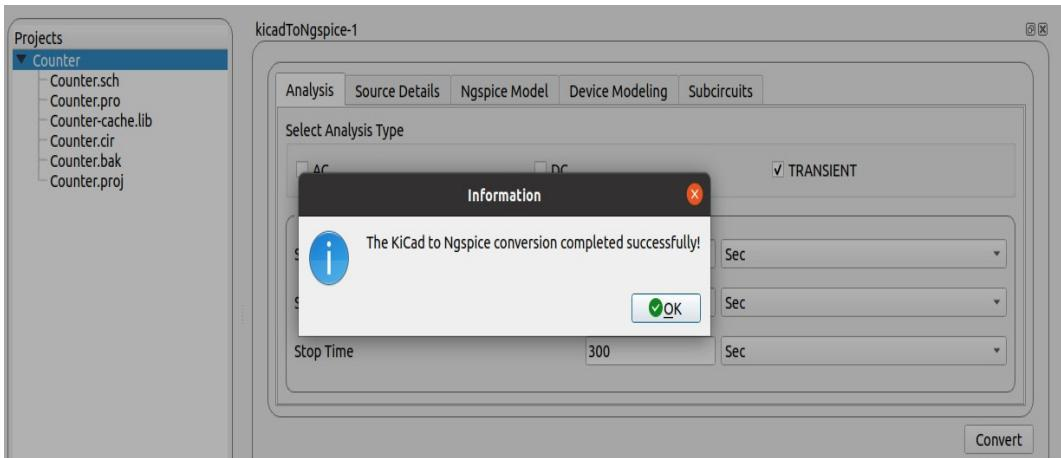

Figure 11.35: KiCad to Ngspice conversion
- In this counter example, no device modeling and sub-circuit build up is required. Now click on the **Convert** button as shown in Fig. 11.35. This will convert KiCad schematic into Ngspice code i.e it creates the simulation compatible netlist.